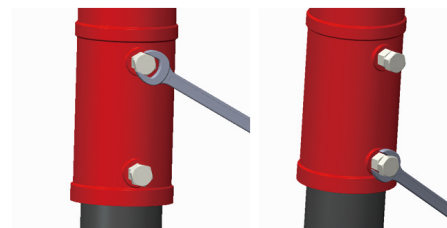

Figure 11
2.9 While ensuring that the indicator body is flush with the ground, tighten the bolts and lock nuts to fix the indicator body on the stand pipe (see Figure 11).